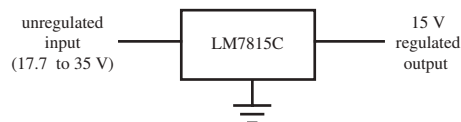

Figure 3.17 Fifteen-volt regulated DC supply.
Although the zener diode voltage regulator is cheap and simple to use, it has some drawbacks: The output voltage cannot be set to a precise value, and regulation against source ripple and changes in load is limited. Special semiconductor devices are designed to serve as voltage regulators, some for fixed positive or negative values and others easy to adjust to a desired, nonstandard value. One group of regulators that is easy to use is the three-terminal regulator designated as the 78XX, where the last two digits (XX) specify a voltage with standard values: 5 (05), 12, or 15 V. Using a regulator such as the LM7815C, a well-regulated 15 V source is easy to create, as shown in Figure 3.17 (see Section 7.10.2 for more information).